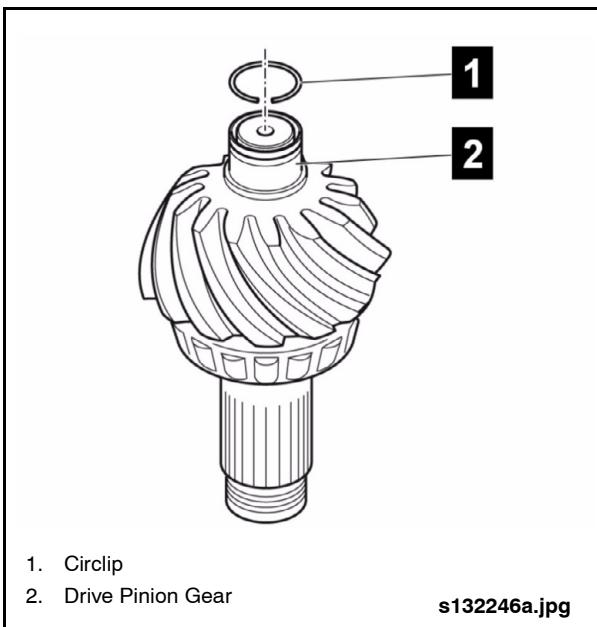

Fig. 2-99: Installing Bearing Inner Race Circlip
4. Install the bearing inner race until fully seated with the collar facing the drive pinion gear. See "Fig. 2-99: Installing Bearing Inner Race Circlip" on page 78.